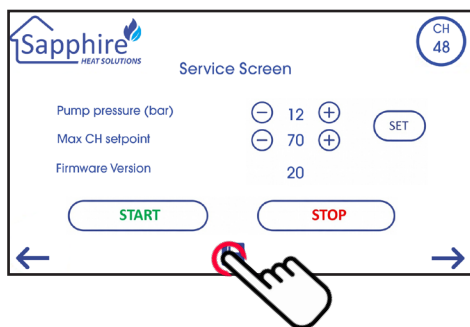

Fig.28.4
- Once desired Set point Temperature is set. Click the Save Icon - **Fig. 28.4**